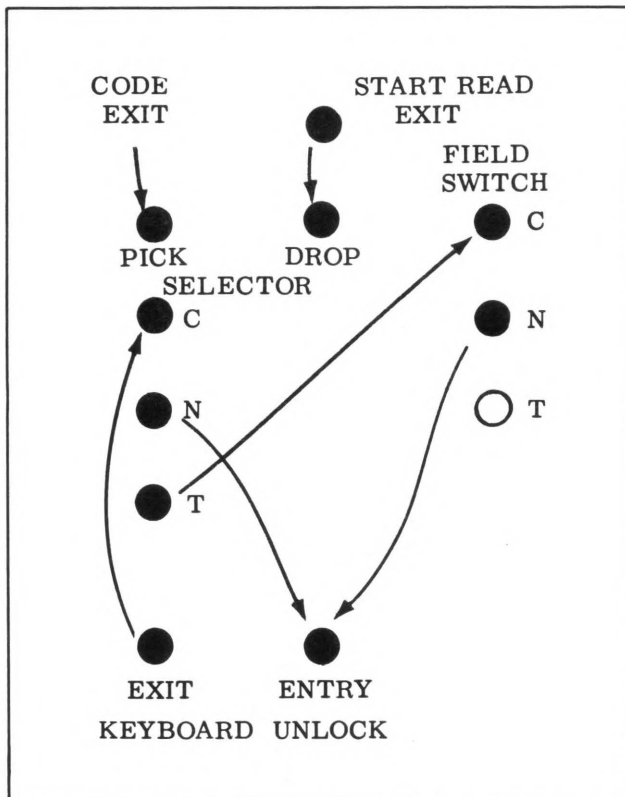

Figure 29. Keyboard Unlock Wiring Example.
KEYBOARD UNLOCK ENTRY (Z) - (Optional) Used in conjunction with the KEYBOARD UNLOCK EXIT (v), a circuit must be completed between these two for the keyboard to become unlocked. For example, figure 29 below illustrates how a disciplined entry wiring operates. Hubs are shown out of their normal position for clarity.
In figure 29, under normal conditions, the keyboard remains unlocked. However, before each disciplined field, a code is read that picks the selector. In this transferred condition, the keyboard is still unlocked as long as the selected field switch is unoperated. When an actuator, placed at the end of the disciplined entry field, contacts the field switch, the circuit is broken, and the keyboard becomes locked. At this point, the only way the keyboard can become unlocked, is for the operator to touch START READ. This action drops the selector (returns it to a normal condition).
Note: There are several ways of causing this same effect. However, whatever the means used to break the connection between the KEYBOARD UNLOCK EXIT and ENTRY hubs, operation of START READ, NON PRINT or TAPE SKIP panel switches will unlock the keyboard, even though not specifically wired to do so, as in the illustration shown in figure 29.